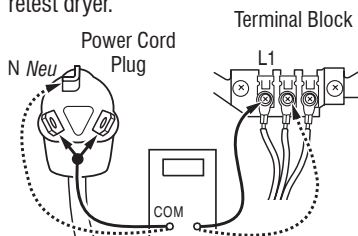

Figure 4a - Plug-to-terminal connections for electric dryer
3. With an ohmmeter, check for continuity between the neutral (N) terminal of the plug and the center contact on the terminal block. See figure 4a.
4. In a similar way, check which terminal of the plug is connected to the left-most contact on the terminal block and make a note of it. This will be L1 (black wire) in the wiring diagram (See the location of the wiring diagram noted on page 11). See figure 4a.